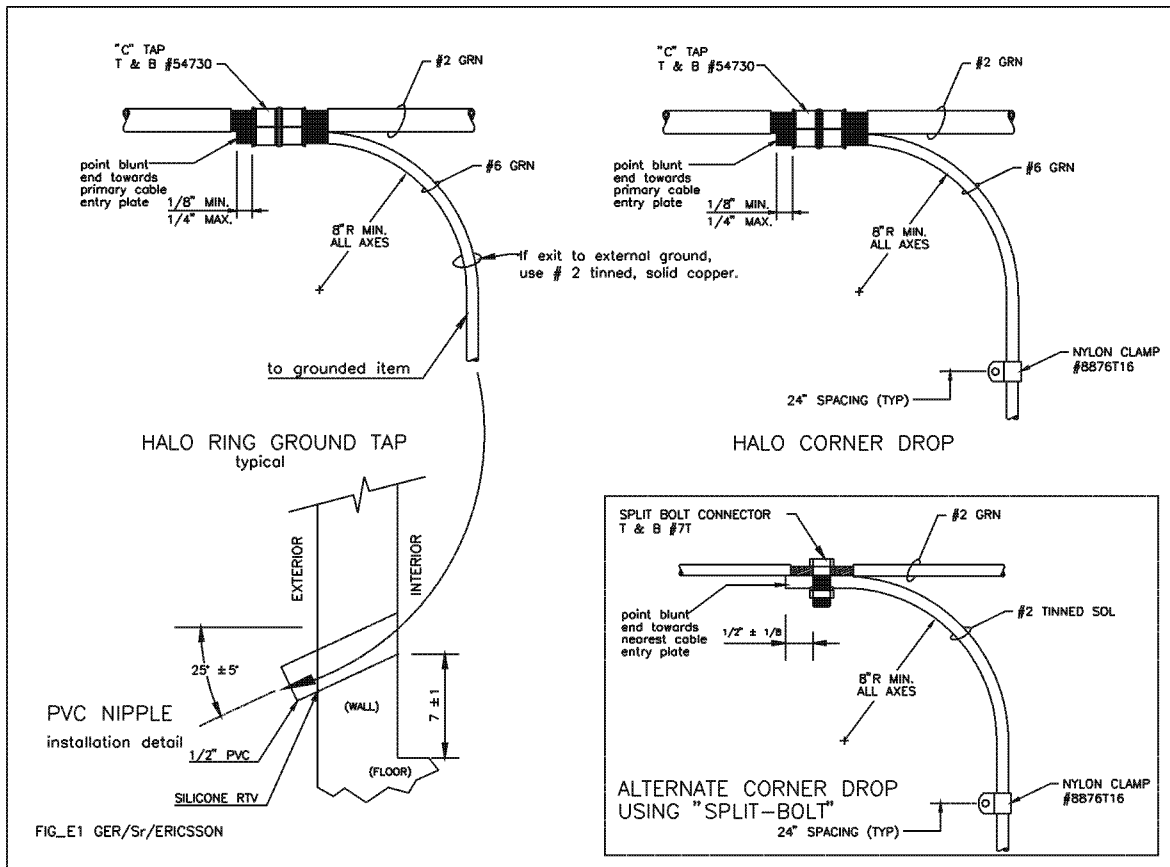
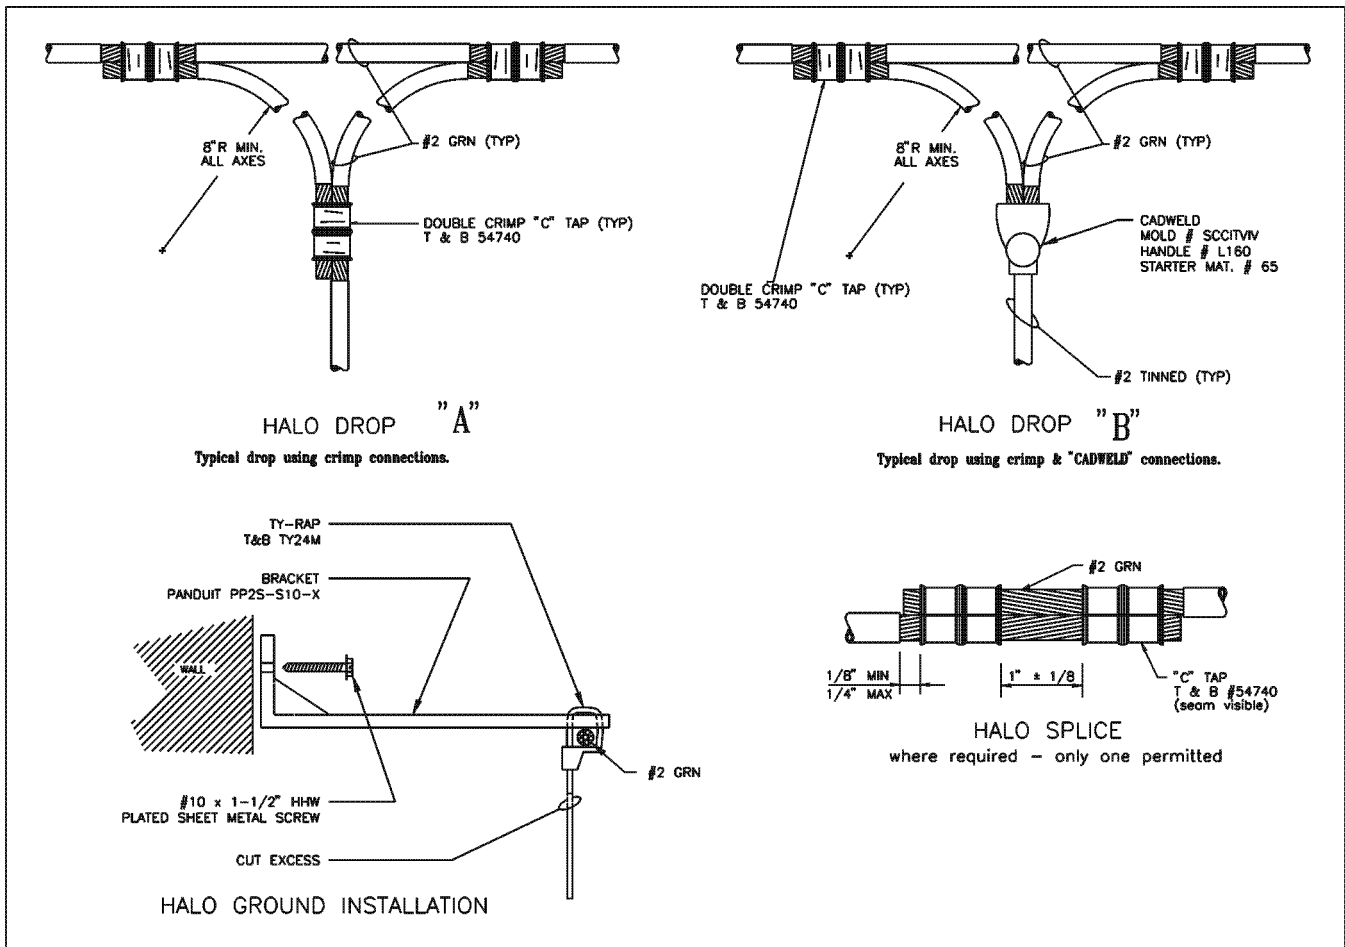
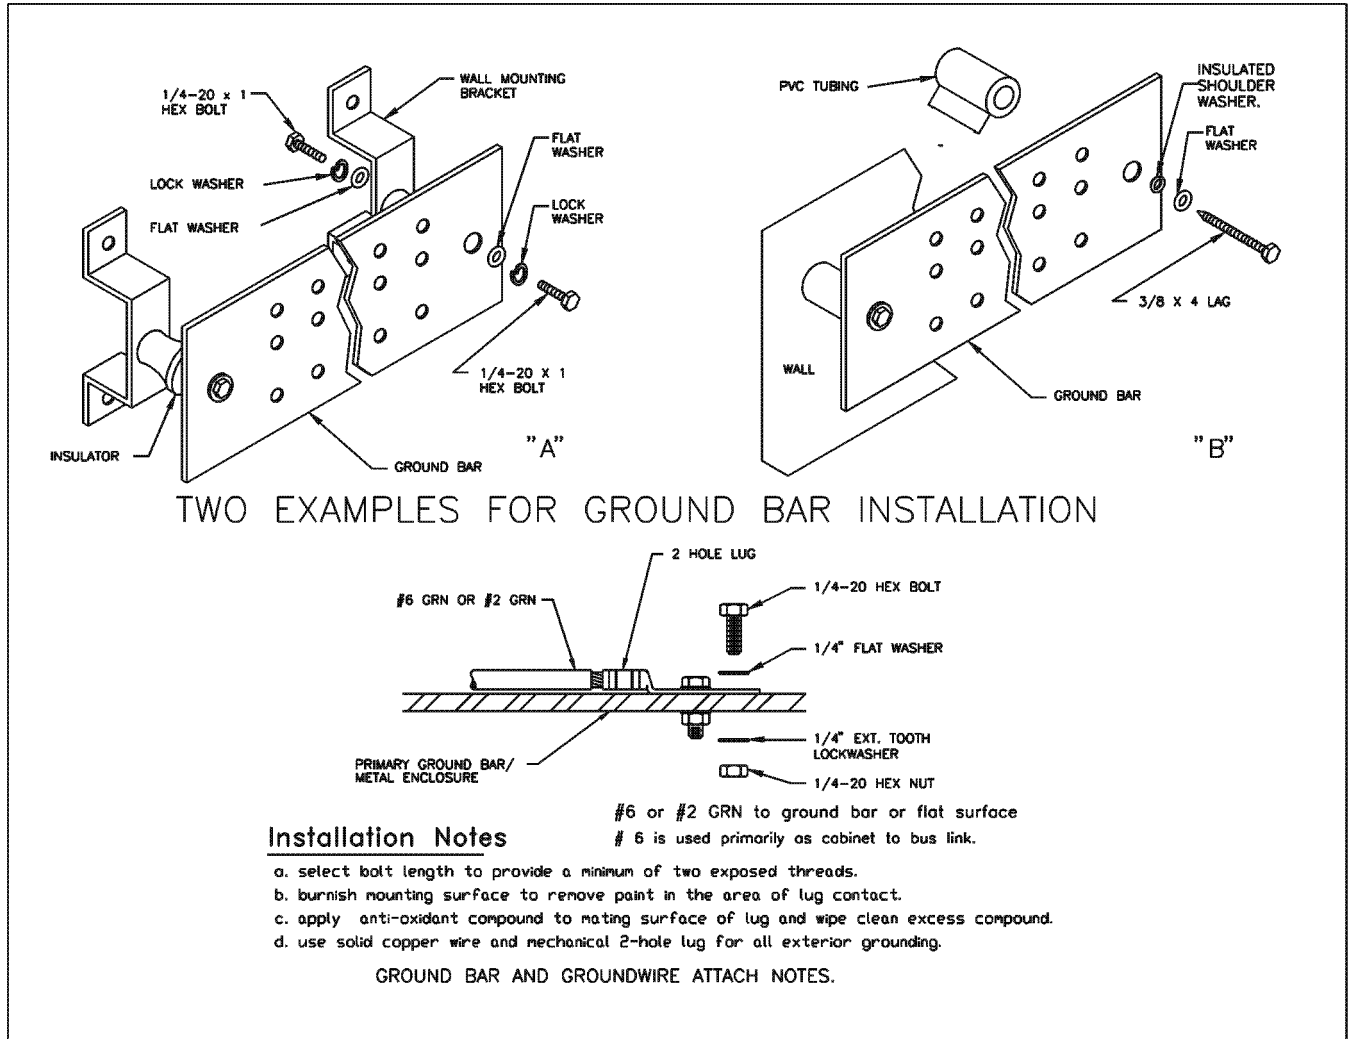

Figure 1 - "Halo" Ground Ring Connections
Figure 2 - Internal "Halo" Connections
Figure 3 - Two Examples For Ground Bar Installation
2. The manufacturer shall install a “halo” ground system consisting of a #2 AWG stranded green insulated copper halo located approximately 6 inches below the ceiling (see Figure 2 or the M/A-COM Grounding Guidelines & Practices, LBI-39067) with vertical #2 AWG bare/tinned solid copper drops at each corner of the building (see Figure 1). At these drop locations a length of bare/tinned solid copper wire capable of extending through and beyond the PVC nipple at least 10 feet shall be coiled and secured to the wall. The customer will use these to connect to the on site grounding system.
3. The shelter floor will be supplied with penetrations as per Figure 1 to allow the customer to exit at each corner wall location with the #2 AWG halo ground. Silicone sealer or equivalent shall be supplied for customers use to seal these penetrations after grounding connections have been made. An internal shelter “ground-bar” shall be installed as described in Figure 3.
6. All coax cable and/or wave-guide entry grounds will terminate at the “ground window” or a *PolyPhaser Earthed Entry Panel* (PEEP) ground bar installed in an area near to, and/or below the cable multi-port entry panel. A description and example of the ground bar is illustrated in Figure 3.